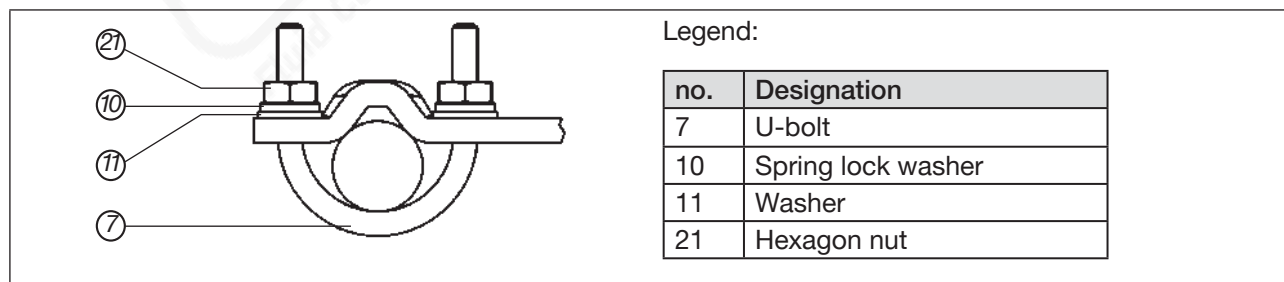

Figure 21: Attaching the positioner with the mounting bracket; for actuators with a columnar yoke
→ Attach the mounting bracket to the columnar yoke using the U-bolt (7), the washers (11), the spring lock washers (10) and the hexagon nuts (21) (see "Figure 21").